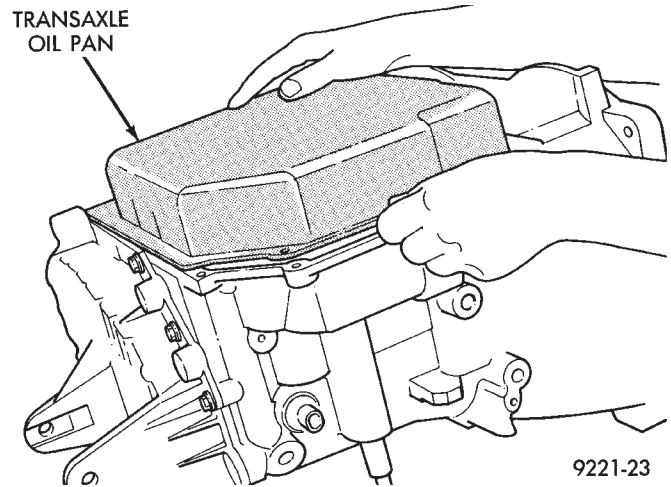

Fig. 44 Remove Transaxle Oil Pan
- (5) Remove transaxle oil pan (Fig. 44). When reinstalling oil pan be sure that pan flange is clean and oil free. Apply a 1/8 inch bead of Mopar Silicone Sealer onto oil pan flange before installing.